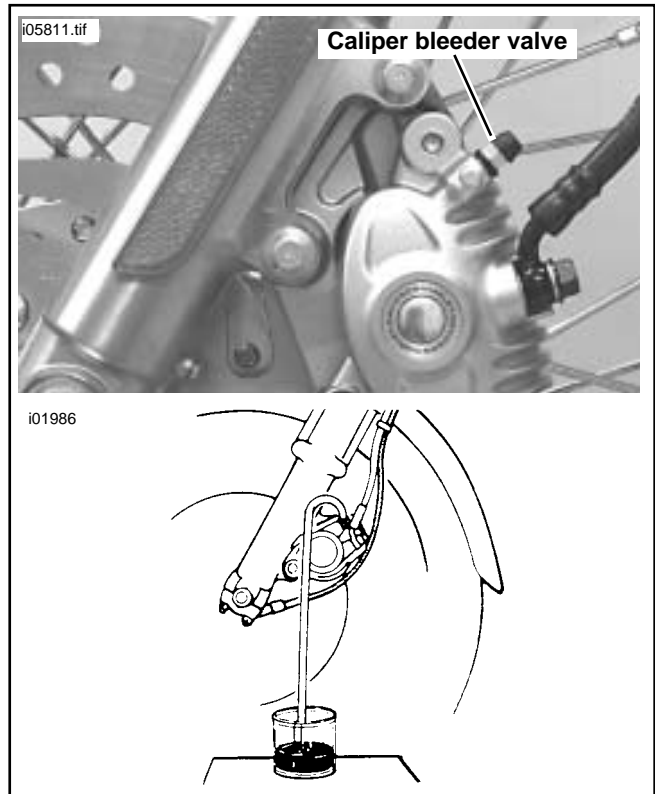

Figure 1. Draining Brake Fluid
2. See Figure 1. Open the bleeder nipple cap on the front brake caliper. Obtain a length of plastic tubing. Install one end of the tubing over the caliper bleeder valve.